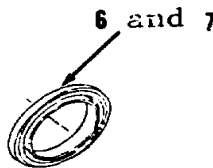

Figure 13-59.
2. Install rear seal (6) on bevel end (outside diameter) of wear sleeve (7). Make sure the lip of rear seal (6) is toward inside of engine and outside bevel diameter of wear sleeve (7, Figure 13-59) is toward outside of engine.